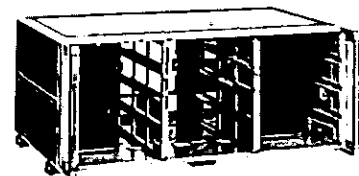

Figure 3. HP 1051A Combining Case.
- 1051A** (Fig. 3) accepts third- or half-module instruments up to 11 1/4" (286 mm) deep.